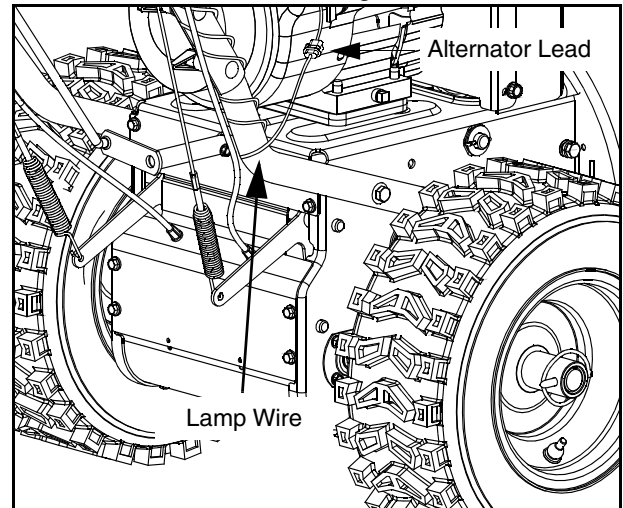

Figure 7
- Plug the wire from the headlight into the alternator lead located on the right side of the engine, beneath the fuel tank. See Figure 7.